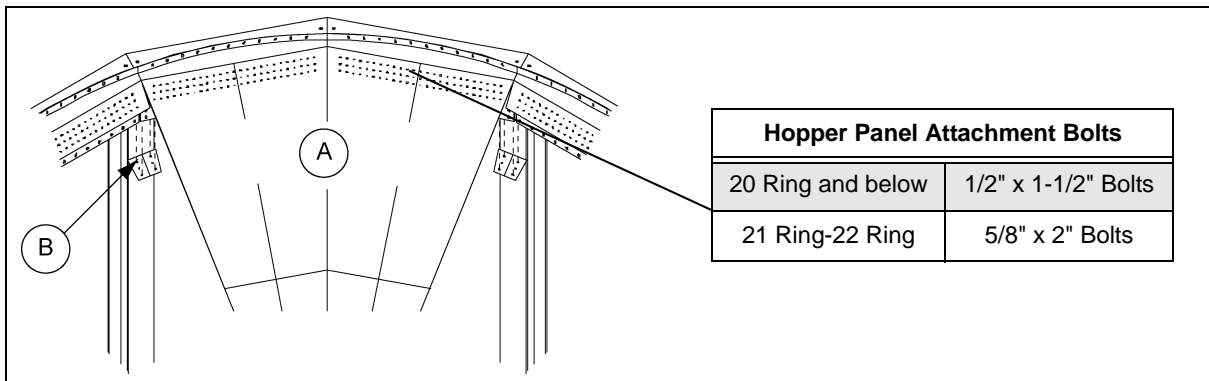
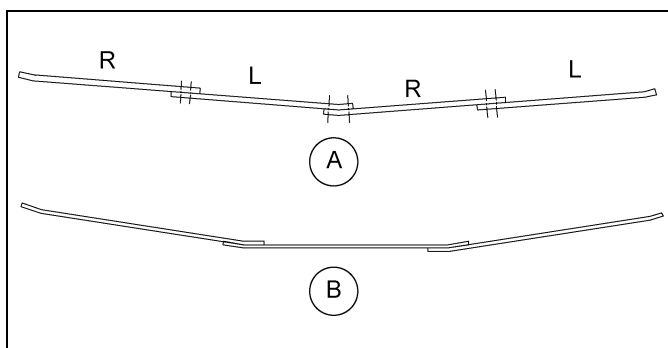

Figure 7E Top Section and Splice Assembly
Figure 7F Lap Details
Step 1: Attach all the top panels to the compression angles using bolts. See chart below for bolt specifications. Install the compression splice plates on the back side of the compression angle. (See Figure 7E.) All top panel overlap seams use 1/2" x 1" bolts. Lap all panels as shown in Figure 7F.
Step 2: Assemble the left and right sides of the middle section to the top sections that were just installed. Use 1/2" x 1" bolts for all middle section seams. Use 1/2" x 1-1/2" bolts at the corners of the panels where three (3) or more panels overlap. Lap all panels as shown in Figure 7F.